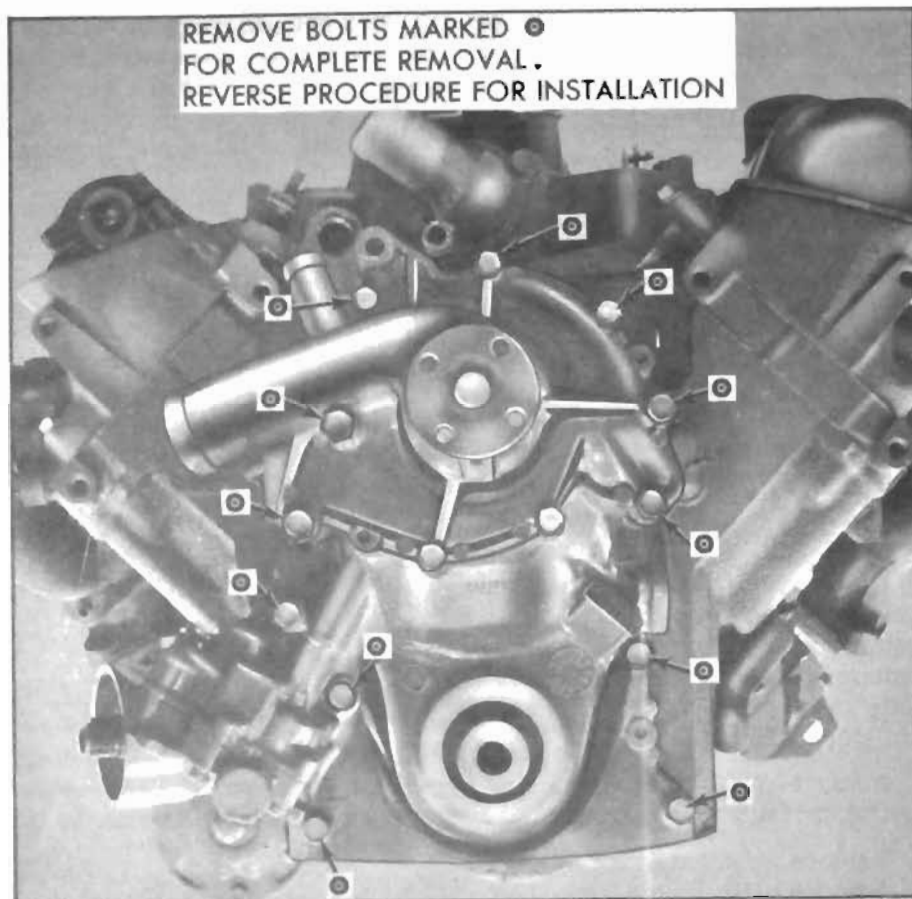

Figure 2-27—Timing Chain Cover Installation
4. Lube the bolt threads before installation and install them as shown in Figure 2-27.